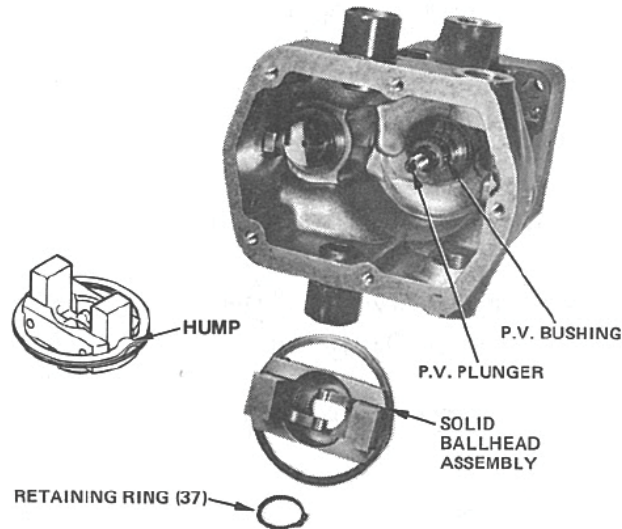

Figure 3-17. Ballhead Installation
13. Assemble flyweights (35) to ballhead (34) with pins (36) and secure by fitting ring (38) around ballhead assembly. If the retaining ring has a hump it must be installed with the hump positioned as shown in Figure 3-17.